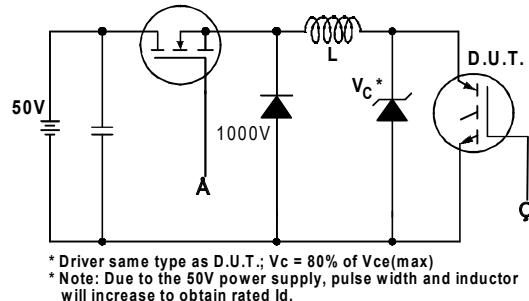

Fig. 13a - Clamped Inductive Load Test Circuit
- ② $V_{\text{CC}} = 80\%(V_{\text{CES}})$, $V_{\text{GE}} = 20\text{V}$, $L = 10\mu\text{H}$, $R_G = 23\Omega$, (See fig. 13a)
- ③ Repetitive rating; pulse width limited by maximum junction temperature.
- ④ Pulse width $\leq 80\mu\text{s}$; duty factor $\leq 0.1\%$.
- ⑤ Pulse width $5.0\mu\text{s}$, single shot.
- ⑥ $t = 60\text{s}$, $f = 60\text{Hz}$